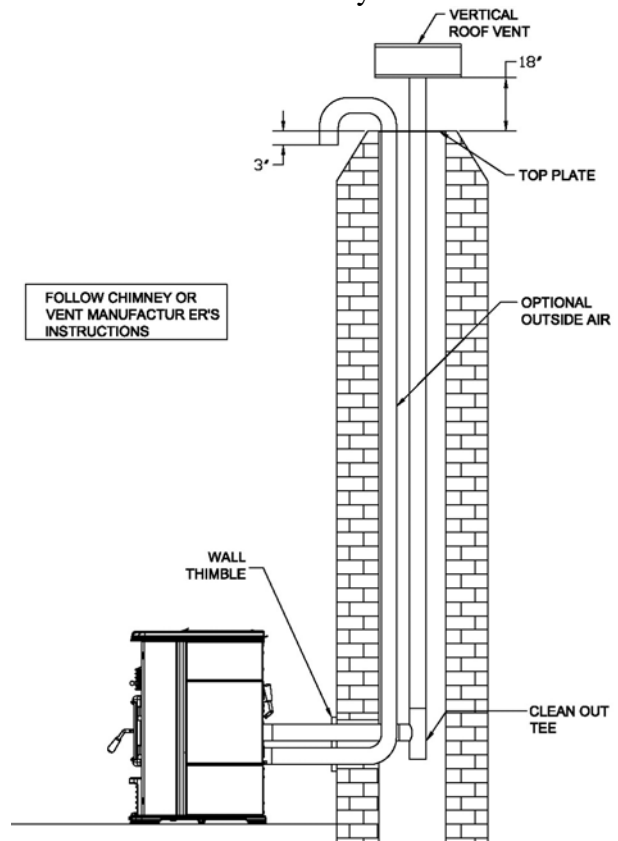

Figure 20
3. Install a blanking plate and the chimney pipe, and if used the outside air pipe, as shown in Figure 20.
4. Install the tee on the bottom of the vertical pipe system and lower it down the chimney until the center branch of the tee is level with the center of the hole in the masonry, as shown in Figure 20.